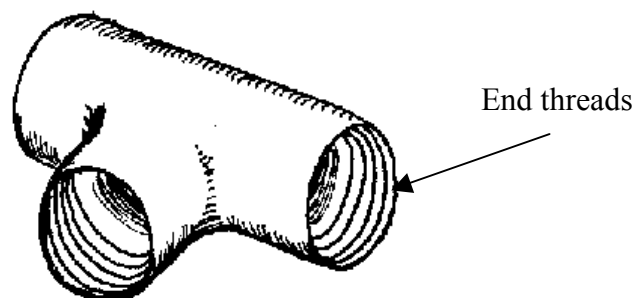
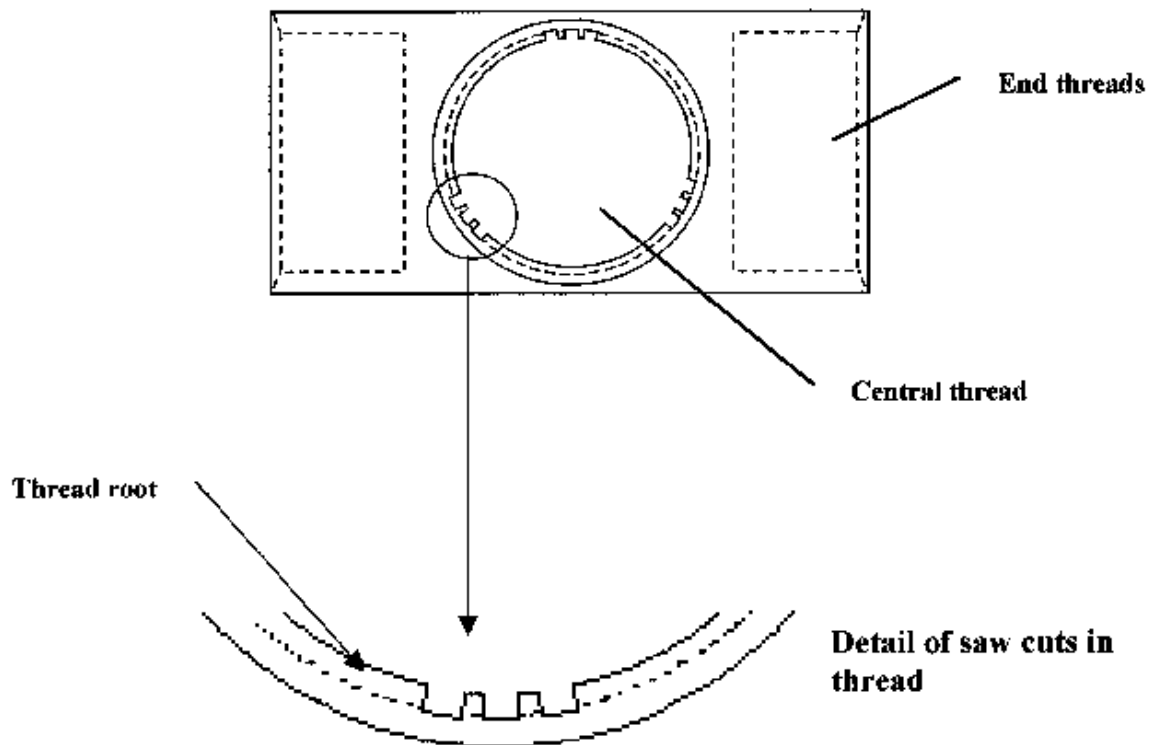

Figure 4 Galvanised Iron tee
Figure 5 The GI Tee with the saw cuts equally spaced round the central thread
Take a standard GI Ø1/2" tee as shown in Figure 4 and make three equally spaced saw cuts
- Take a normal GI $\text{Ø}\frac{1}{2}$ " Tee fitting as shown in Figure 4 and make three equally spaced saw cuts with the hacksaw blade in the central part of the Tee to just beyond the roots of the thread as shown in Figure 5.